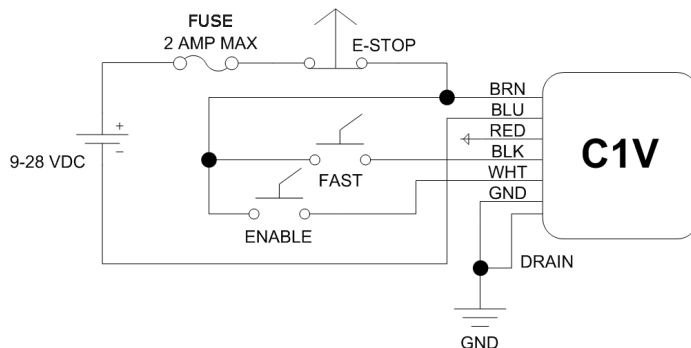

Figure 16.
- Modes 5 and 6 are two speed or two pressure modes of operation. A wiring diagram is shown in Figure 16. In mode 5, when the enable switch is closed, the amplifier will output the minimum programmed output current. This would effectively be a low speed or pressure. When the fast switch is closed, the amplifier outputs the maximum programmed current, resulting in either high speed or high pressure, depending upon the proportional valve being controlled. Mode 6 functions as the inverse of mode 5. When the